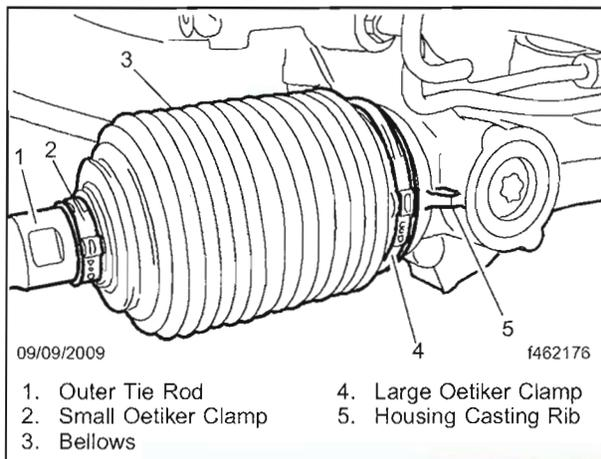

Fig. 7, Oetiker Clamp Alignment
26. Ensure the large Oetiker clamp is properly seated in the clamp groove on the bellows. Align the large Oetiker clamp ear with the small clamp ear. Both clamp ears should be aligned with the rack housing casting rib. See Fig. 7.